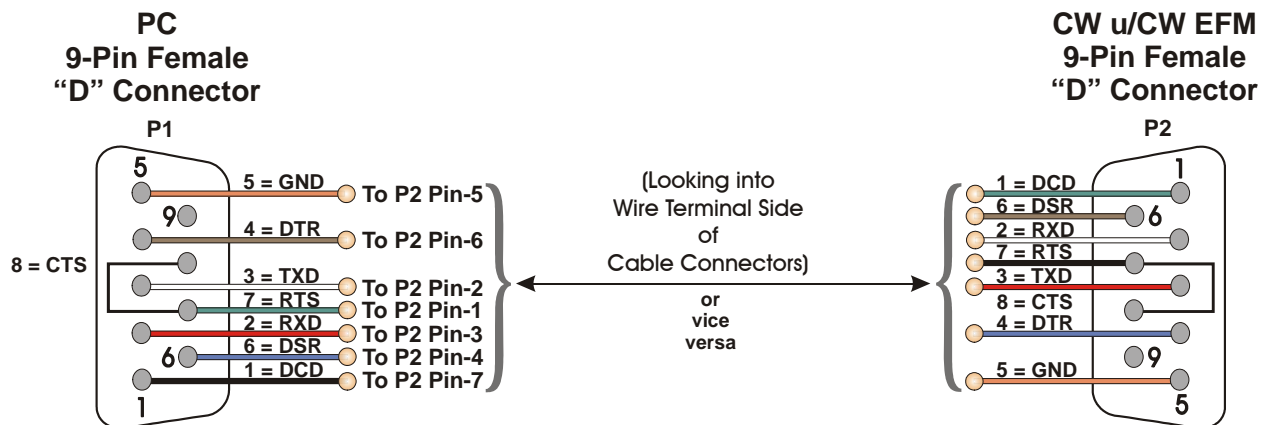

Figure D3 - (Internal Radio/Modem Configuration) BBI P/N 392843-01-3 Full-duplex Null Modem Cable Diagram
3. Connect a Full Duplex **ControlWave** Null Modem Cable (see Figure D3) between a PC and Comm. Port 4 (ECOM1) to configure radio on COMM. Port 6 (ECOM1) or Comm. Port 8 (ECOM2) to configure radio on COMM. Port 10 (ECOM2).
- Swaged Standoff (Qty 4) - Built into CPU/System Controller Bd. - Fig. D3 Reference = E
2. Connect a Full Duplex **ControlWave** Null Modem Cable (see Figure D3) between a PC and Comm. Port 4 (ECOM1) to configure radio on COMM. Port 6 (ECOM1) or Comm. Port 8 (ECOM2) to configure radio on COMM. Port 10 (ECOM2).
3. Connect a Full Duplex **ControlWave** Null Modem Cable (see Figure D3) between a PC and Comm. Port 4 (ECOM1) to configure modem on ECOM1 or Comm. Port 8 (ECOM2) to configure modem on ECOM2.